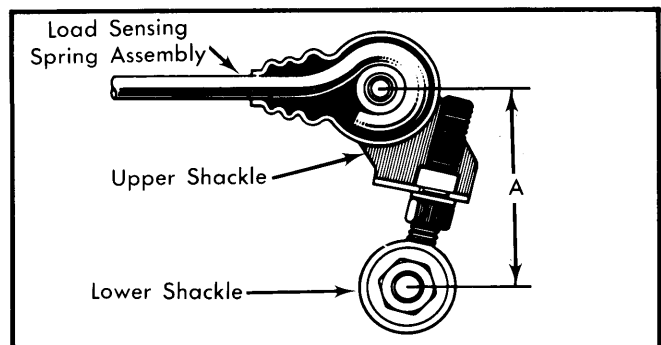

Fig. 2 Adjusting Load Sensing Proportioning Valve
4) If pressure readings do not meet specifications, adjust load sensing proportioning valve by adjusting length of lower shackle. See Fig. 2. If rear pressure was low, lengthen distance "A". If rear pressure was high, shorten distance. Repeat test procedure and check pressure readings.